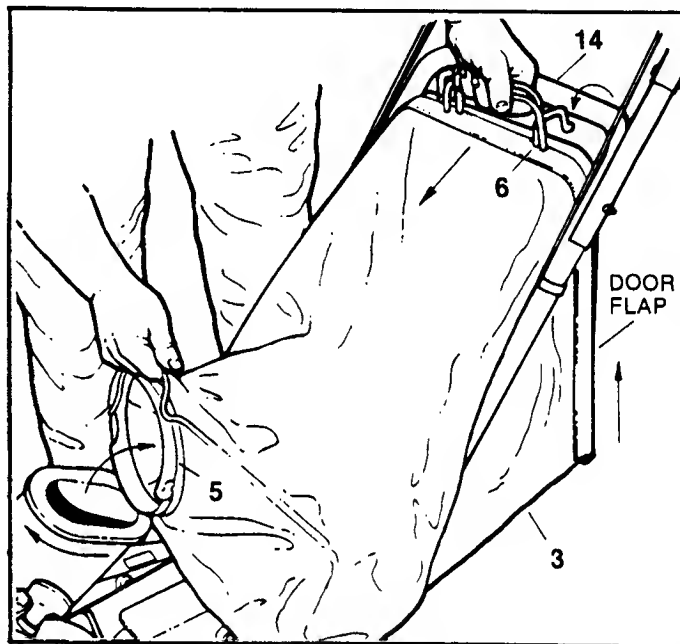

FIG. 7-EMPTYING GRASS BAG
When the grass bag becomes full, stop engine and lift the **BAG WIRE SUPPORT** hooks (6) up over the **LOWER HANDLE** (14) and then lift the **BAG CONNECTOR** (5) off the adaptor flange and continue lifting while moving the bag forward until it clears the mower. To empty the bag, raise the connector end up and release the handle of the door flap. Shake the bag back and forth to dump the clippings. Refer to FIG. 7.